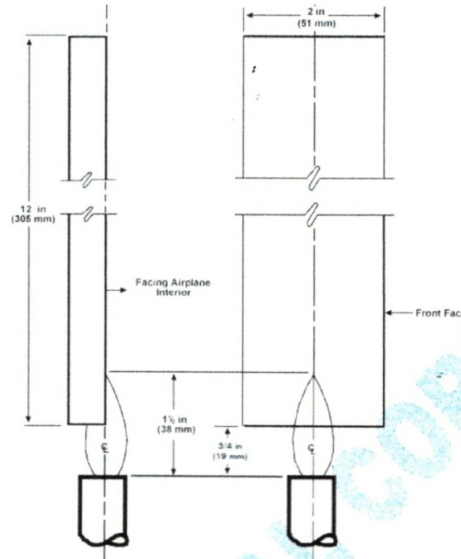

Figure 2. Vertical Burner and Specimen Location
- D) Vertical Specimen Holders: Must hold the specimen such that it remains vertical and is 3/4 inch above the burner (Figure 2).
- G) Flame to Specimen Location: The flame position for each test type will be in accordance with AIRCRAFT MATERIALS FIRE TEST HANDBOOK dated 4/00 or later revision. See Figure 2.